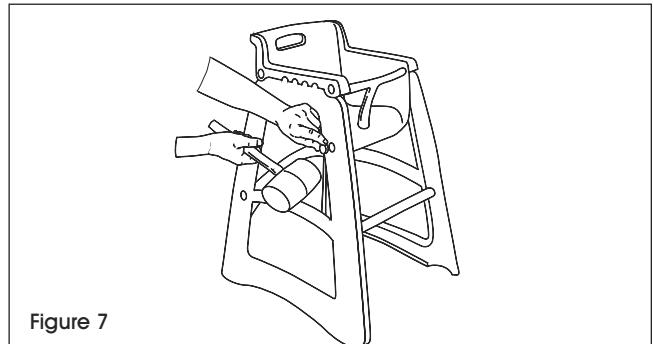

Figure 7
- Seal screw openings with covers. Use a rubber mallet to apply. (See Figure 7)